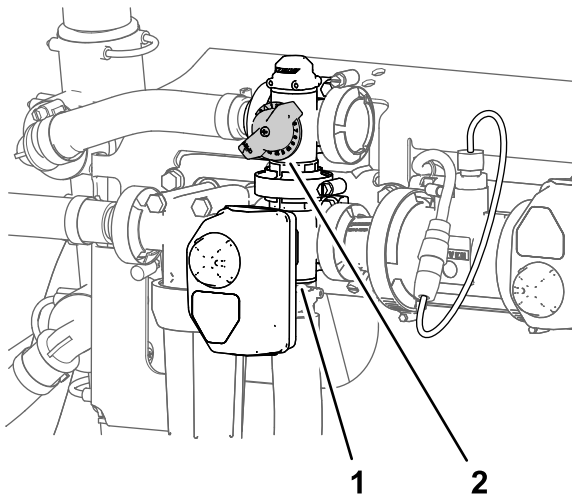

Figure 32
11. Adjust the agitation-bypass valve (Figure 32) on the backside of the agitation valve until the sprayer system pressure indicated on the gauge indicates 689 kPa (100 psi).